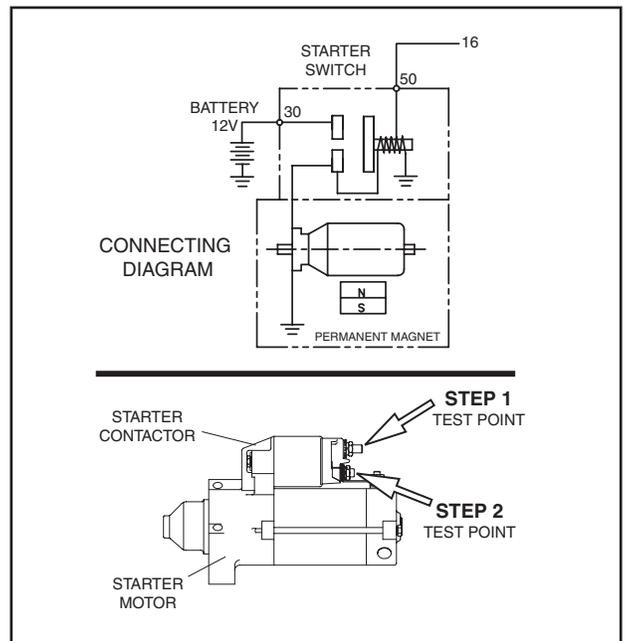

Figure 6-28. – The Starter Contactor (SC)
1. Carefully inspect the starter motor cable that runs from the Battery to the Starter Motor. Cable connections should be clean and tight. If connections are dirty or corroded, remove cable and clean cable terminals and studs. Replace any cable that is defective or badly corroded. Set the voltmeter to measure DC voltage. Connect the positive (+) meter test lead to the Starter Contactor stud that the battery cable is connected to. Connect the negative (-) meter test lead to a clean frame ground. Battery voltage should be measured (see Figure 6-28, **STEP 1 TEST POINT**).
2. Set the voltmeter to measure DC voltage. Connect the positive (+) meter test lead to the Starter Contactor stud that has the small jumper wire connected to the Starter. Connect the negative (-) meter test lead to a clean frame ground. Set the Start-Stop Switch to START. Battery voltage should be measured (see Figure 6-28, **STEP 2 TEST POINT**).